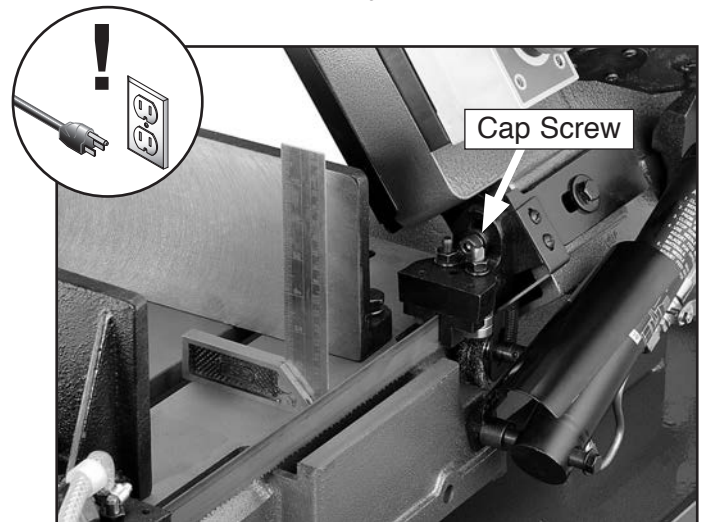

Figure 32. Squaring the blade.
3. Place a square on the table bed and against the edge of the blade (**Figure 32**), and check different points along the length of the table between the blade guides.
4. Loosen the cap screw shown in **Figure 32**, and rotate the blade guide until the blade is vertical to the bed, then tighten the cap screws.